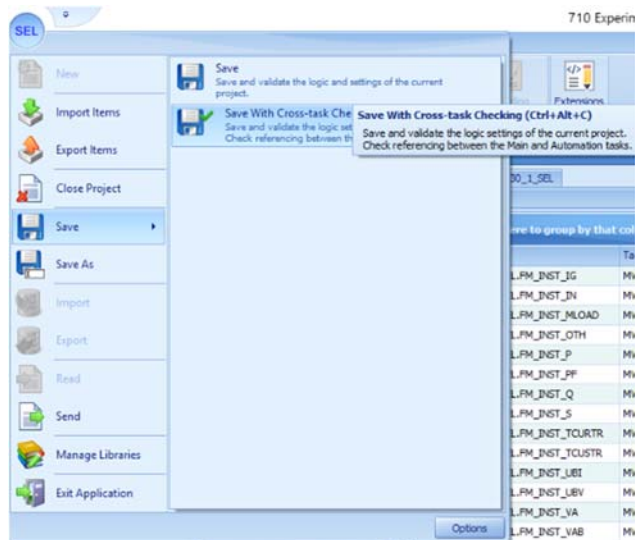
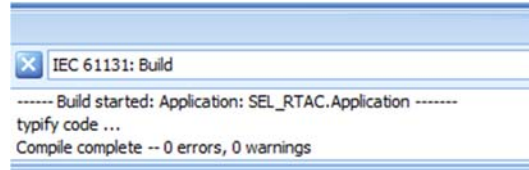

Figure 100: Save With Cross-task Checking
Figure 101: Program Build Results
99. Click the SEL button in the upper left of the screen and select “Save With Cross-task Checking” (Figure 100). In the bottom of the screen, confirm that zero errors and zero warnings occurred (Figure 101). If any exist, correct your code and save again.